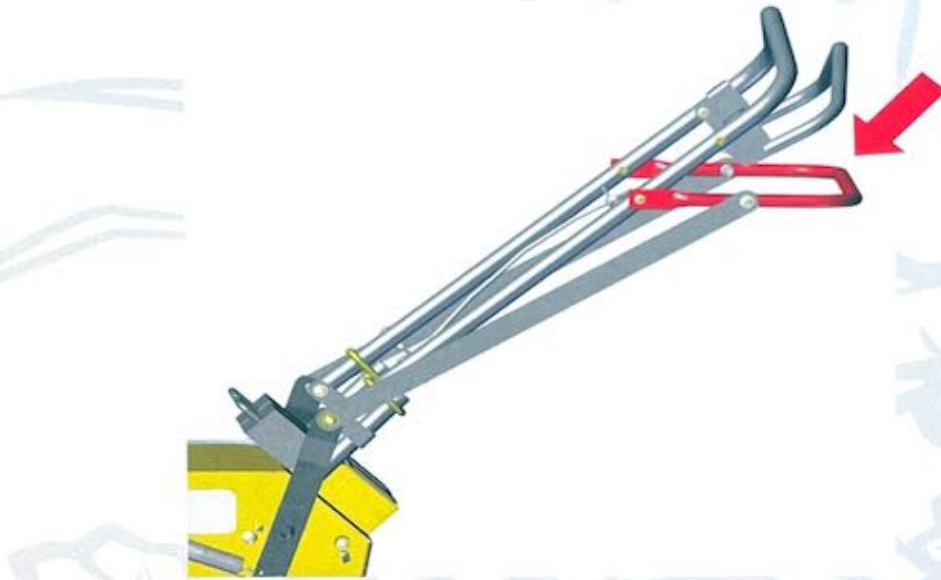

Figure 2
1. Lower aeration tines into the ground by lowering the tine handle, as shown in figure 2.